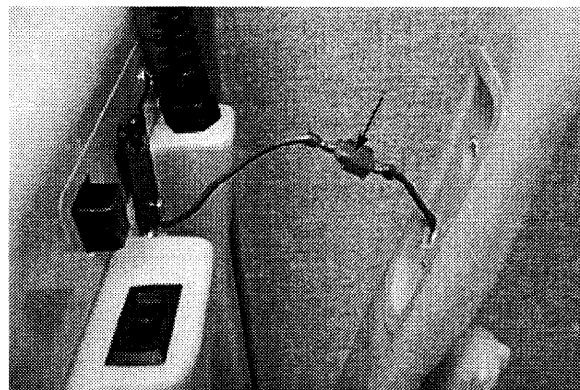

FIG. 1
2. Connect the anti-static wires and tuck wire connectors inside of handle (Figure 1).